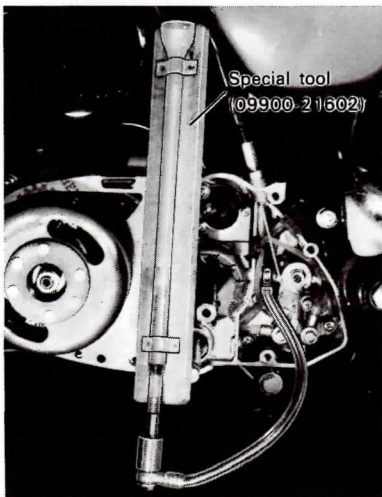

Fig. 2-67
Use special tool (A) (09900-21602), Fig. 2-67, to check the pump for capacity by measuring the amount of oil the pump draws during the specified interval. The checking procedure follows:
1. Have the tool (A) filled with Suzuki CCI oil, and connect it to the suction side of the pump.
4. Holding engine speed at the same 2,000 rpm, move the lever down to the middle position and let the pump draw for two minutes. For this operation, the reading taken on the device (A) should be from (English Market 0.35, French Market 0.27) to (English Market 0.43, French Market 0.35) cc. Oil pump capacity specification at 2,000 rpm per 2 minutes.